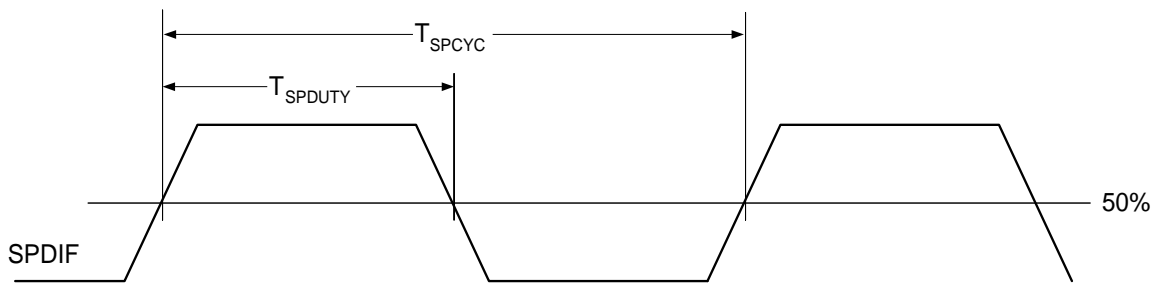
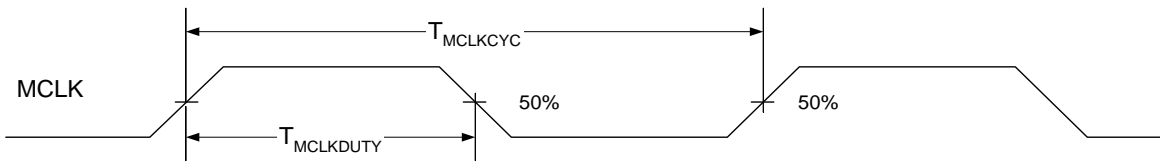

Figure 4.7. S/PDIF Output Timing
Figure 4.8. MCLK Timing
1. Proportional to unit time (UI), according to sample rate. Refer to the S/SPDIF Specification.
2. Refer to Figure 4.7 and Figure 4.8 on page 22.